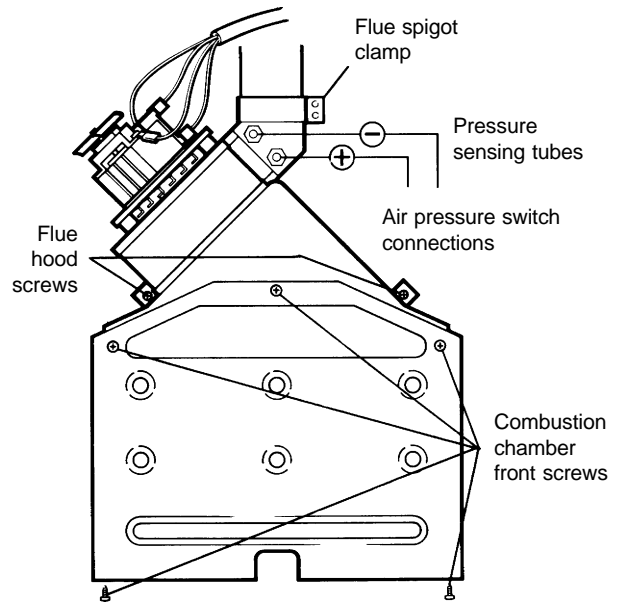

Fig. 21
8.9 FAN - Fig. 21
Alpha 240P and 280P - Connect the fan wiring, blue to terminal 4, brown to terminal 3 and black to terminal 1. Ensure the pressure tubes are connected correctly (see Fig. 21). (- and + marked on the fan outlet), and that the bottom of the combustion chamber cover is located in the burner.